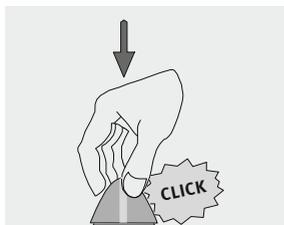

Figure 7
- For final fixing, the cap needs to be locked in place on the mounting point nut by strongly pressing it down (see fig. 7). You will hear a distinct clicking sound. After that, it will not be possible to remove the rooflight without damage.